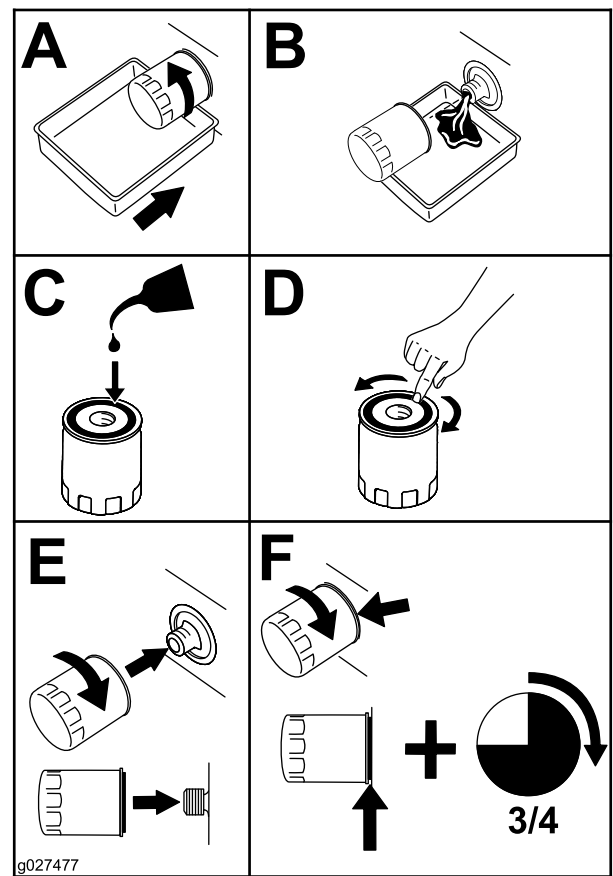

Figure 42
5. Change the engine-oil filter (Figure 42).